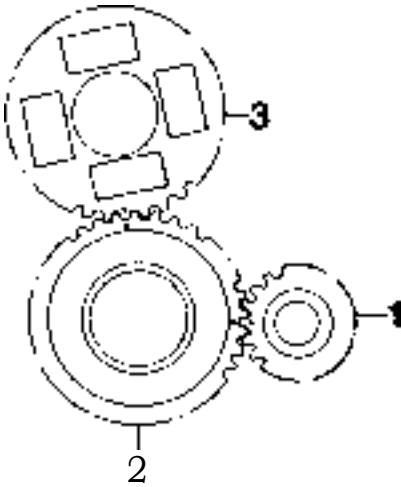
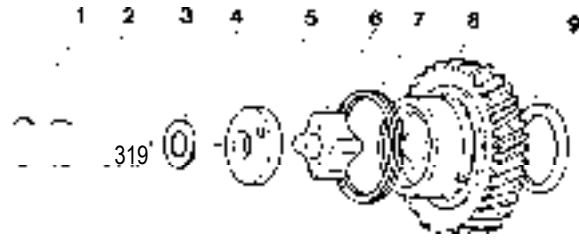
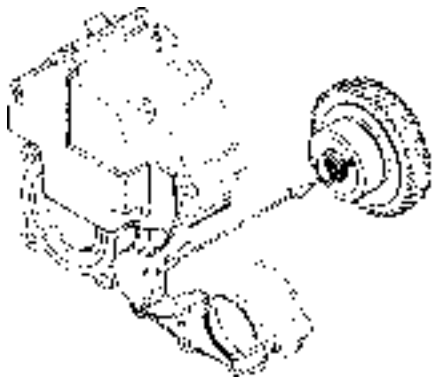

Fig. 61. Timing gears, basic setting
Fig. 62. Intermediate gear complete with oil pump
Fig. 64. Fitting of timing gear casing
Crankshaft gear - the intermediate gear is marked with a punch mark and the intermediate gear - camshaft gear with a circle opposite the tooth and tooth gap (Fig. 61).
3. Fit the thrust washer (9, Fig. 62) on the intermediate gear's shaft journal. Fit the intermediate gear as per the markings (Fig. 61).
4. Grease in the oil pump's inner rotor (6, Fig 62) and housing (outer rotor, 8).
Fit the inner rotor and cover to the oil pump. Fit the shims, spring, spring washer and lock washer as per Fig. 62.
Note: The hole in the cover should be in the position shown in Fig. 64 (which it should if the markings on the gear wheel coincide according to Fig. 61).